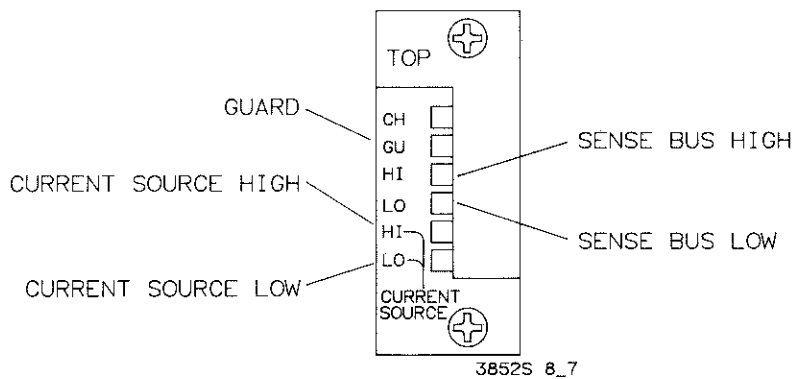
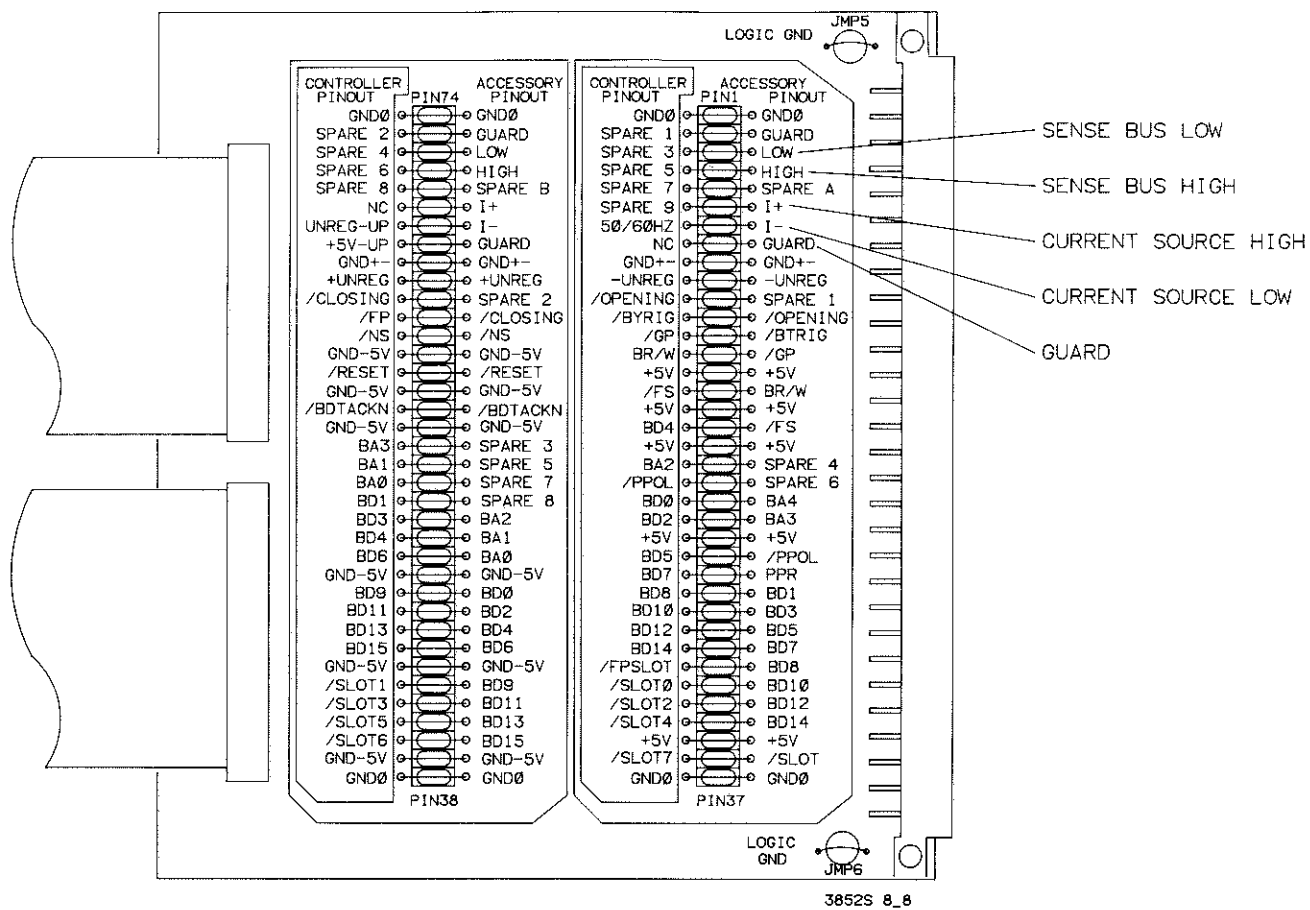

Figure 10-24 Analog Bus Connector
Figure 10-25 HP 44743A Service Module
*The backplane analog bus can be tested in one of two ways: 1) By connecting an external multimeter to the analog bus connector on the rear panel of the power supply module as shown in Figure 10-24, or 2) By connecting an external multimeter to the backplane analog bus line jumpers provided on the 44743A service module as shown in Figure 10-25.*